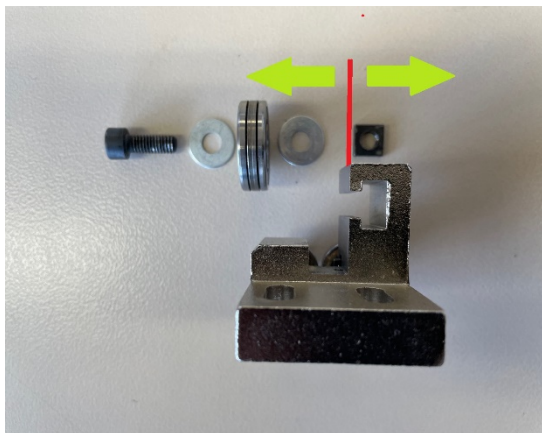

Figure 5
- Install the lower bearing by placing the two washers **on each side of the bearing**. (Fig 5)